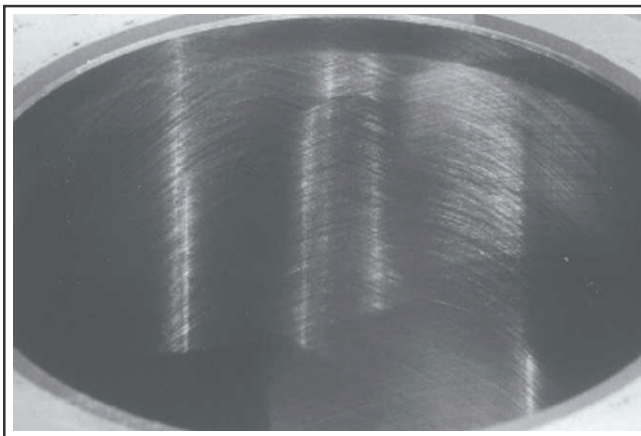

Figure 9-3. Cylinder Bore Crosshatch after Honing.
3. When the bore is within **0.064 mm (0.0025 in.)** of the desired size, remove the coarse stones and replace them with burnishing stones. Continue with the burnishing stones until the bore is within **0.013 mm (0.0005 in.)** of the desired size and then use finish stones (220-280 grit) and polish the bore to its final size. A crosshatch should be observed if honing is done correctly. The crosshatch should intersect at approximately 23°-33° off the horizontal. Too flat an angle could cause the rings to skip and wear excessively, and too steep an angle will result in high oil consumption. See Figure 9-3.